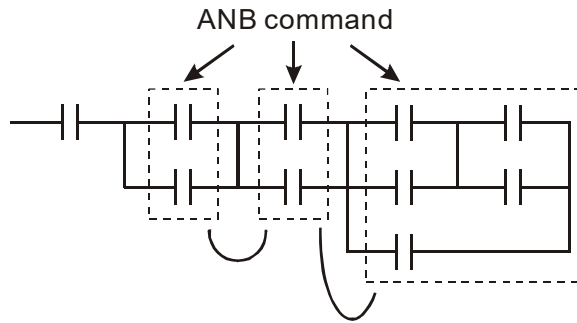

Figure 17-34
**ANB command:** a configuration in which one block is in series with one device or block. See Figure 17-34.